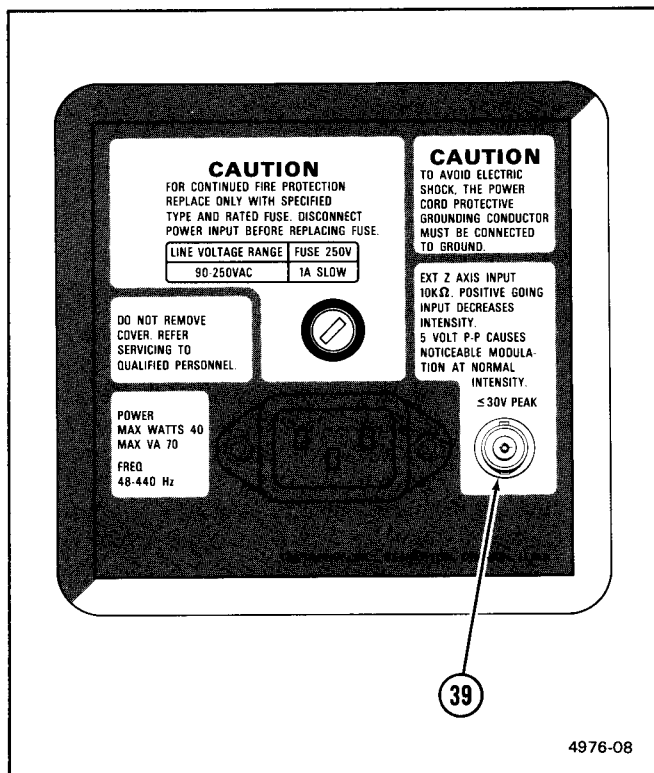

Figure 2-7. Rear-panel connector.
Refer to Figure 2-7 for location of item 39.
- ③⑩ **EXT Z-AXIS Connector**—Provides a means of connecting external signals to the Z-Axis amplifier to intensity modulate the crt. Applied signals do not affect display waveshape. Signals with fast rise times and fall times provide the most abrupt intensity change, and a 5 V p-p signal will produce noticeable modulation. The Z-Axis signals must be time-related to the display to obtain a stable presentation on the crt.